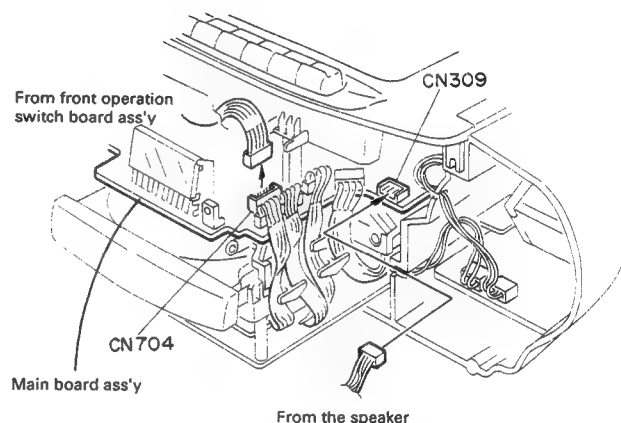

Fig. 2-2
3. Remove the speaker harness coming from the front cabinet assembly and the operation switch board harness connected to the CN704 and CN309 connectors on the main PCB (Fig. 2-2).